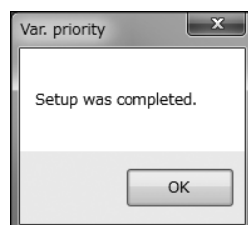

Fig.75
- ⑤ Click "OK" to change the settings to the inputted values, and then click the "OK" button in the displayed message box (Fig. 75) to complete the setting process.